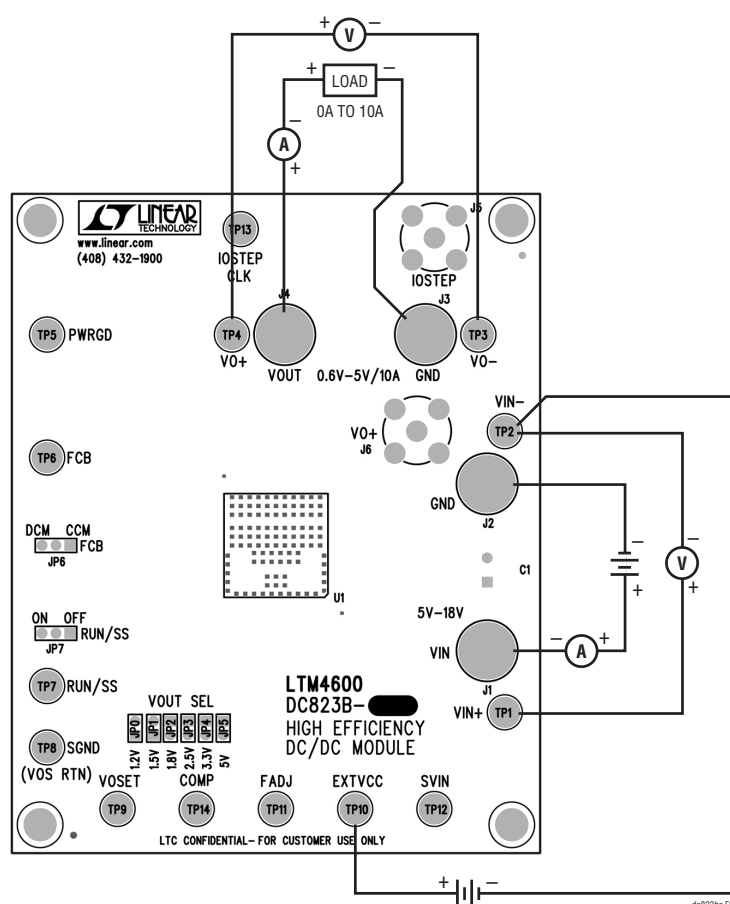

Figure 1. Test Set-Up of DC823B-A (EXTVCC V_{BIAS} Supply is Optional)
Demonstration circuit DC823B-A is an easy way to evaluate the performance of the LTM4600EV. Refer to Figure 1 for proper measurement equipment set-up and follow the procedure below:
2. With power off, connect the input power supply, load, optional 5V bias supply and meters as shown in Figure 1. Preset the load to 0A and V_{IN} supply to be less than 20V. The optional 5V bias supply applied to the EXTVC pin must be off while the main V_{IN} is turned off.